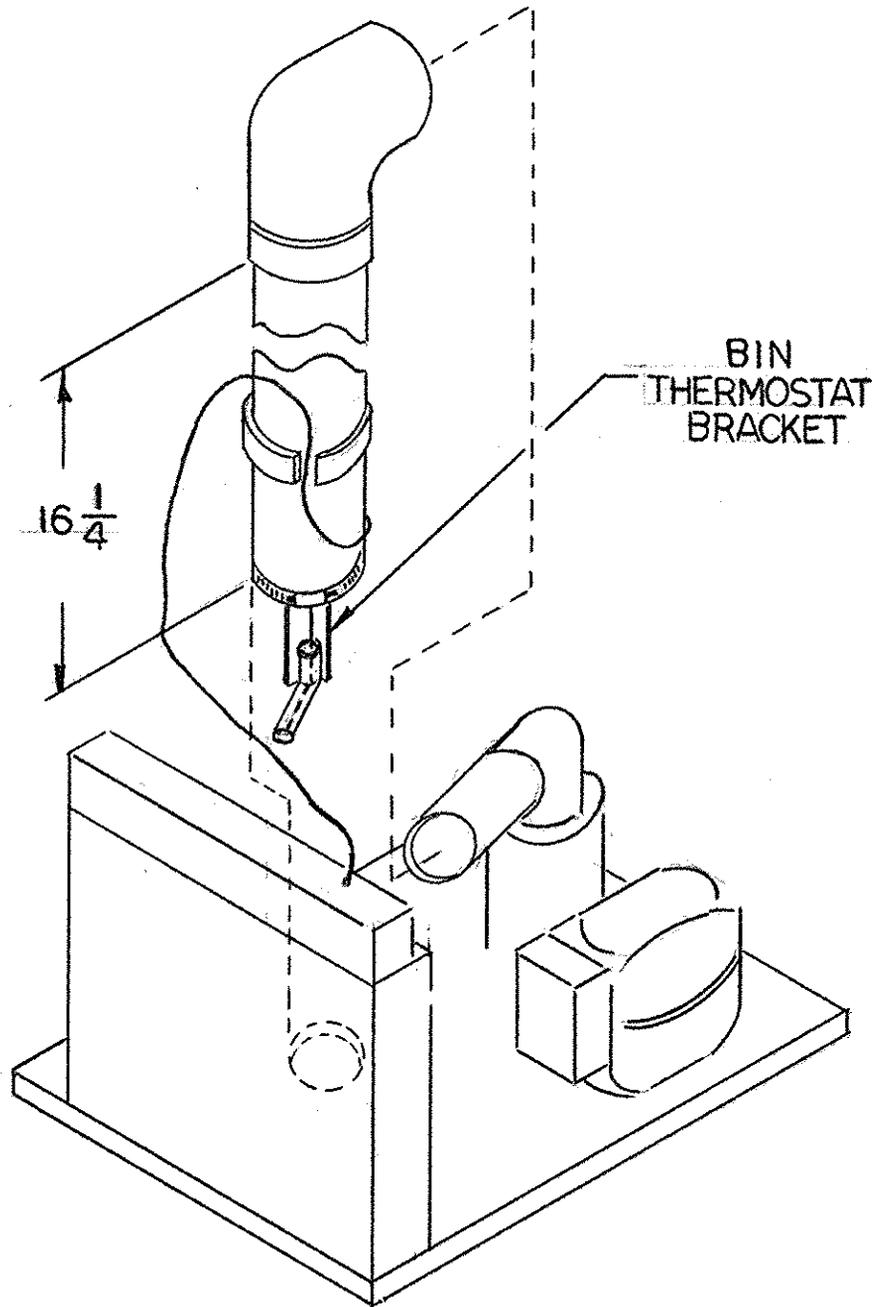
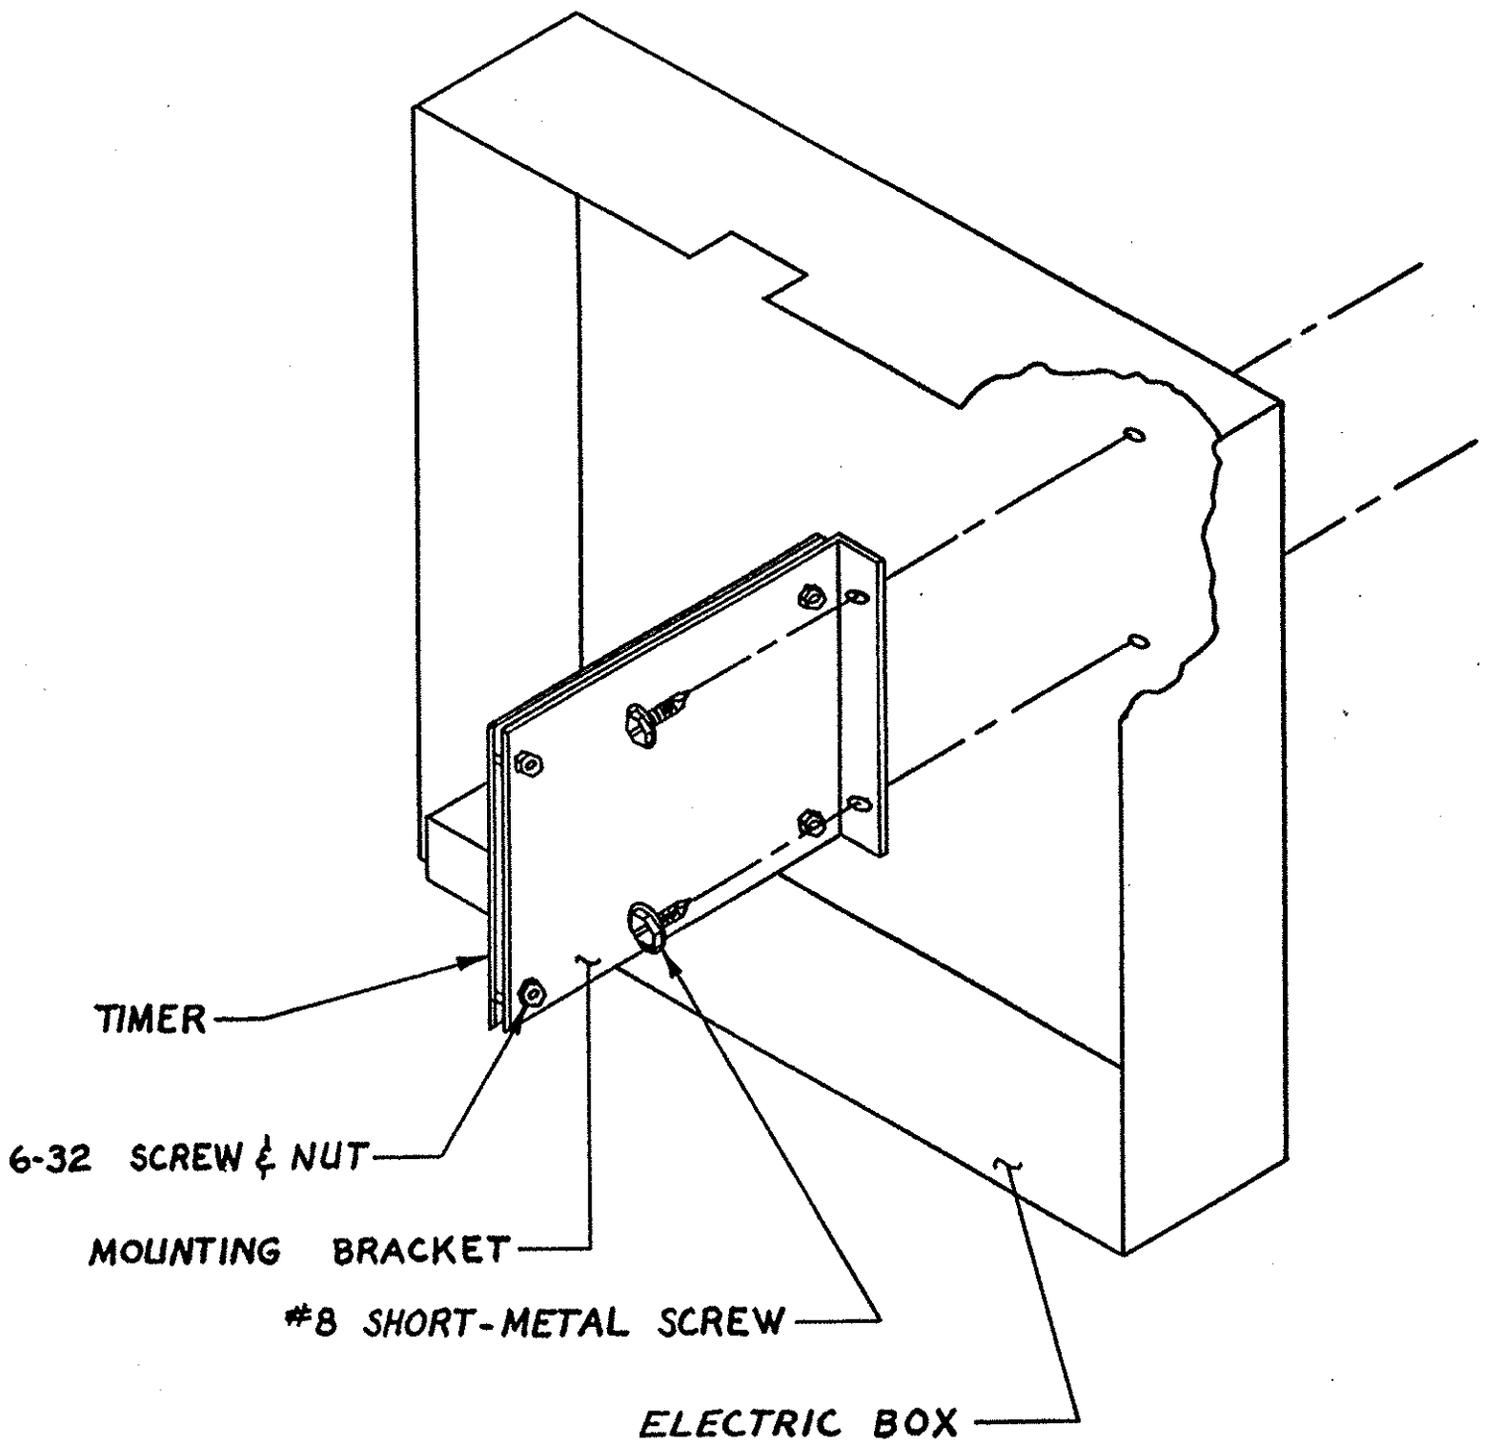

FIG. 2
FIG. 4
- B. Install agitation timer in electric box with screws (2) provided. (Fig. 4) See wiring diagram for timer harness hook-up. Note that the red lead from the terminal board to the capacitor is to be connected to the timer (remove from capacitor). Check that cycle time dials are set as shown on page 2.
- E. Using the top covers as templates, locate and drill (4) .136 dia. holes (#29 drill size) in left and right sides of dispenser cabinet.
- F. Secure top covers to dispenser with (4) sheet metal screws provided.
5. Install the bin thermostat bracket provided in the kit as follows (See Fig. 2):
- A. Cut the vertical portion of the ice transport tube to the length shown in Fig 2.
- C. Secure the thermostat bracket on the end of the ice transport tube. See Fig. 2 for the proper orientation of the thermostat bracket in relation to the dispenser hopper.